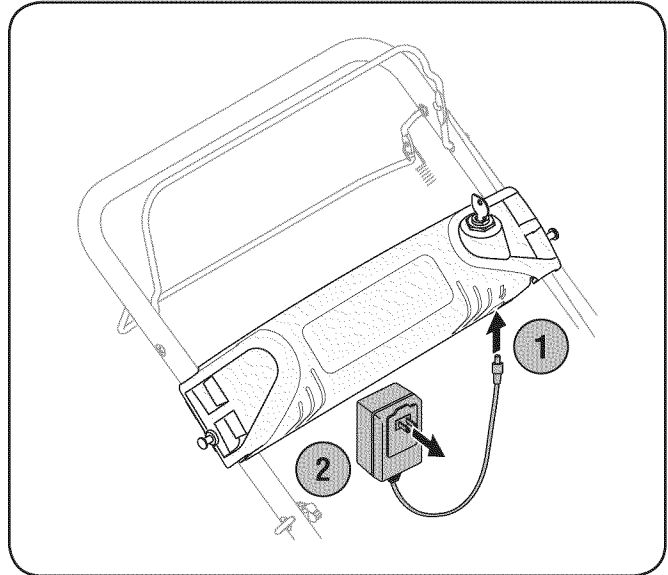

Figure 7-7
- Plug the battery charger into the port on the underside of the battery housing. See Fig. 7-7.